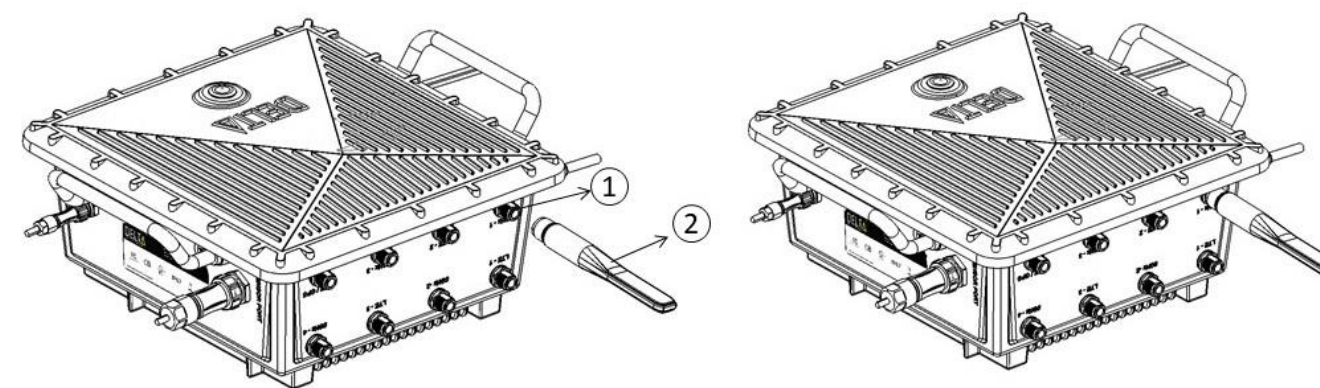

Figure 10: Antenna installation
- a. Locate the antennas (Item-F). Connect the antenna (2) to the panel mount N-type connector (1) on the hyperSPROUT™ smarthub or hyperHUB™ access point as shown in Figure 10. Tighten it by hand.